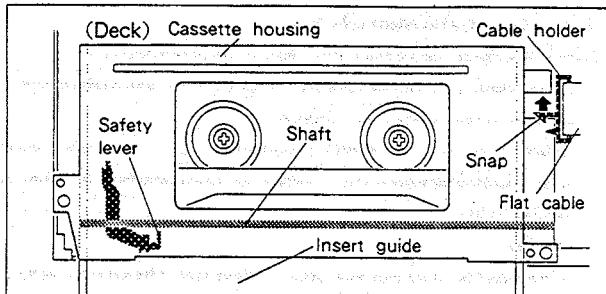

Fig. 2-1-1
#### **2-1-1 Removal(Refer to Fig. 2-1-1~2-1-2.)**
- C. Unfasten the snap of the cable holder and remove the cable holder from the cassette housing as shown in Fig.2-1-1.
#### **2-1-2 Installation(Refer to Fig.2-1-1~2-1-3.)**
- A. Slowly lower the cassette housing onto the main plate of the deck so that the safety lever enters between the insert guide and the shaft as shown in Fig. 2-1-1. Align the two positioning holes( **e** , **f** ) and the two U holes ( **g** , **h** ) located on the cassette housing with the matching holes in the deck.